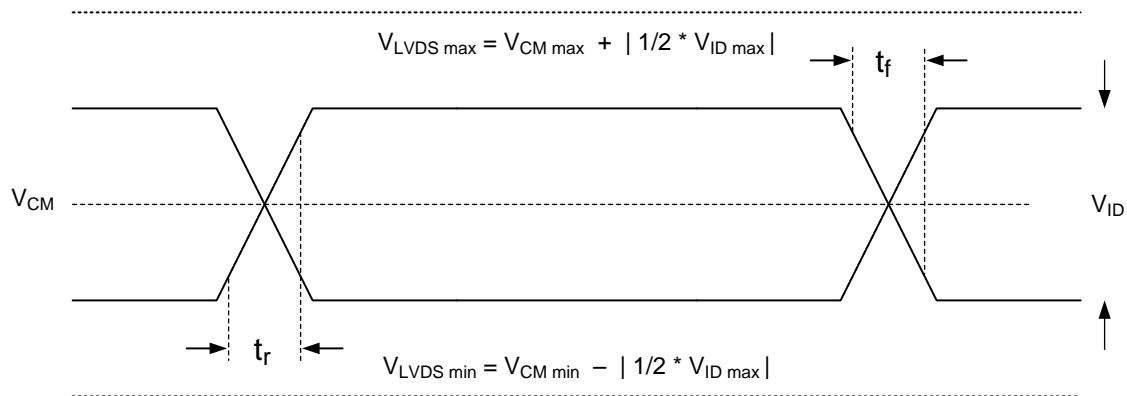

Figure 5. LVDS Waveform Requirements
(2) See Figure 5 for timing requirements for LVDS.
(3) Channel A (Bus A) includes the following LVDS pairs: DCLK_AN and DCLK_AP, SCTRL_AN and SCTRL_AP, D_AN(15:0) and D_AP(15:0).
(4) Channel B (Bus B) includes the following LVDS pairs: DCLK_BN and DCLK_BP, SCTRL_BN and SCTRL_BP, D_BN(15:0) and D_BP(15:0).
(5) Channel C (Bus C) includes the following LVDS pairs: DCLK_CN and DCLK_CP, SCTRL_CN and SCTRL_CP, D_CN(15:0) and D_CP(15:0).
(6) Channel D (Bus D) includes the following LVDS pairs: DCLK_DN and DCLK_DP, SCTRL_DN and SCTRL_DP, D_DN(15:0) and D_DP(15:0).